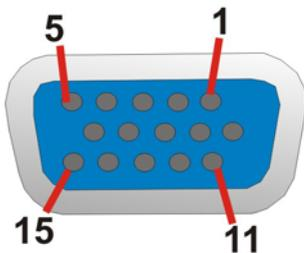

Figure 4-28: VGA Connector
- CN Pinouts:** See Figure 4-28 and Table 4-28